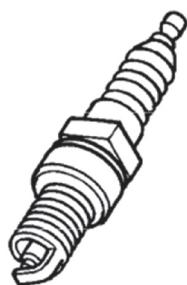

Figure 1
- ① The sparkplug replacement must be performed every 10,000 hours or 5 years, whichever comes first.
- ② Make sure to use genuine parts for the replacement sparkplugs (Figure 1).
- ③ The following tools, gauges, and parts are required for doing this work. Prepare them before starting.